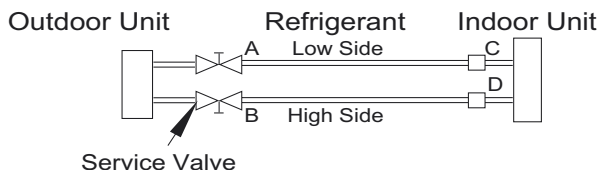

Fig. 17 —Service Valve
3. Fully open the low side of manifold gage (see Fig. 17).